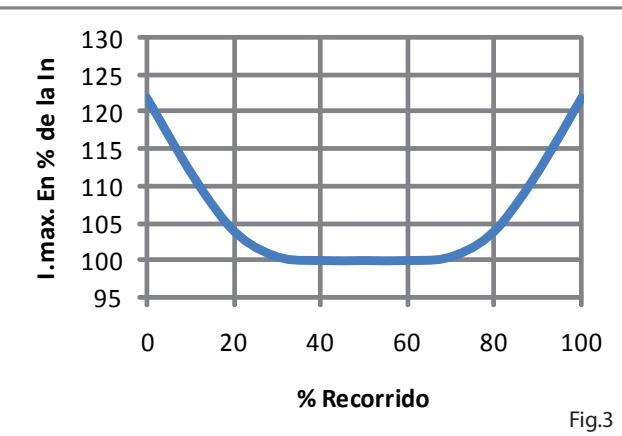

Fig.3
- * The variable autotransformers allows the adjustment of the voltage without surpassing the nominal current , except at the beginning and the end of the range which may be surpassed by up to 22%, as shown in the graph in figure 3.